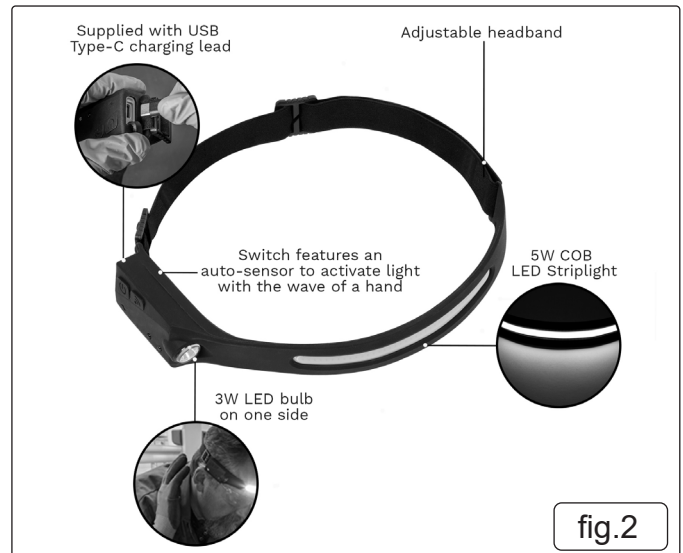

fig.2
- 4.5. Adjust the head band size for a comfortable and secure fit using the adjusters. Fig.2